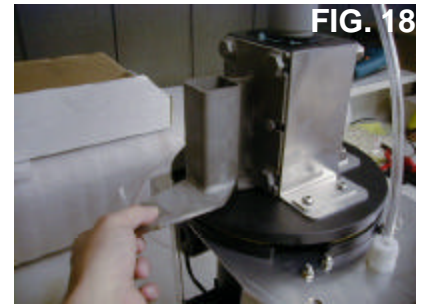

FIG. 18
9. Install pivot assembly with cover (fig. 17) tighten down 1/2-13 Nylocks with 1/2" drive socket to 50 ft. lbs. Once tightened check pivot rotation, pivot should rotate with 2 fingers as seen in fig. 18. If pivot is bound back each 1/2-13 Nylock off 1/8 turn, re-check for rotation, repeat as needed, until pivot rotates freely.